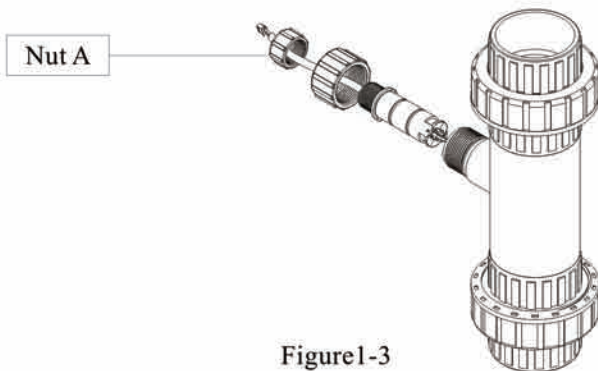

Figure 1-3
B. When the flow meter stops measuring but the tested liquid is still flowing, the working mode of probe can be checked online. Screw the probe nut A out, and check the working condition of the diode on the back of probe. If the diode always lights on or off, it indicates the impeller in pipeline stop rotating. It shall stop pipeline working, release pressure in pipeline, and disassemble the probe to check if there is any foreign matter impact impeller rotating. After cleaning, if it can rotate normally by manually, and the diode works normally, it can continue to use after confirming the installation correct. (See as Figure 1-3)